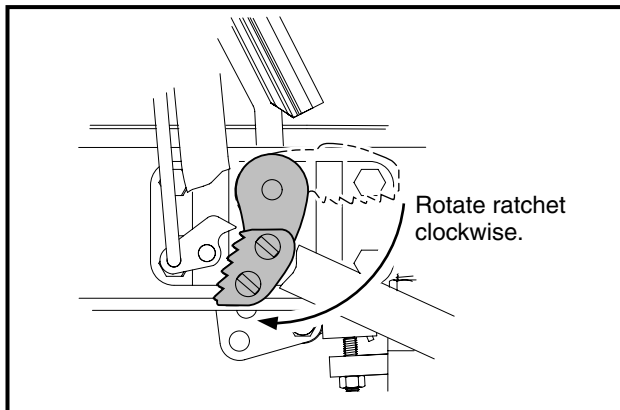

Figure 5-11 Ratchet Installation
8. Press the brake pedal slightly, and with the park brake ratchet oriented so that the tip of the ratchet is pointed toward the rear of the vehicle, slide the ratchet onto the pivot rod (do not slide the ratchet onto the pivot rod splines). Release the brake pedal and allow the ratchet to rotate until its tip is pointed downward (**Figure 5-11, Page 5-11**). The ratchet should now rotate freely on the rod.